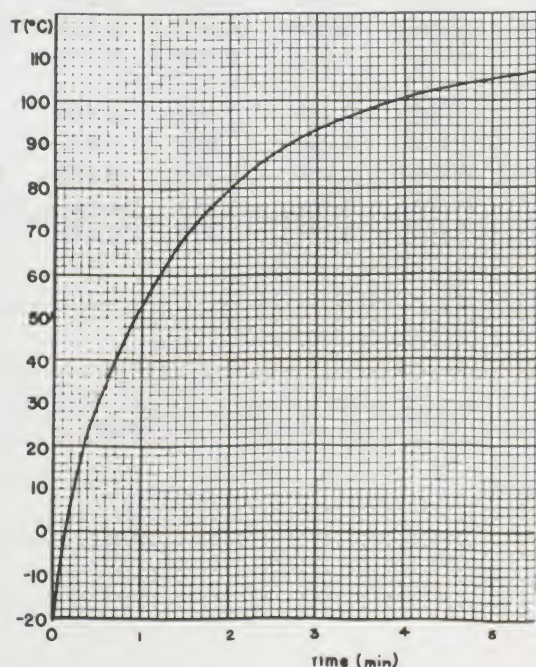

Figure 69
5. Is the curve of Figure 69 an exponential? How can you tell? What is the *response time* if this graph was the heating curve for a system which was heated with a constant power input? What is the *rise time*?